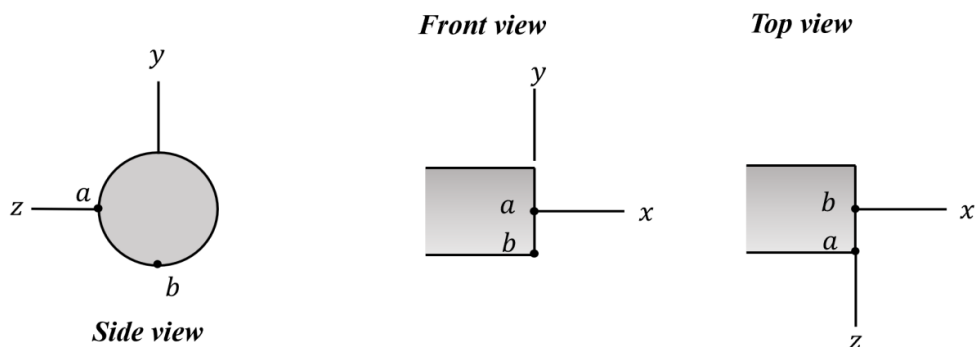

Figure 4
- Show the stress distribution due to each internal resultant on the appropriate view of the cross B (i.e., side view, front view or top view) (see Fig. 4).